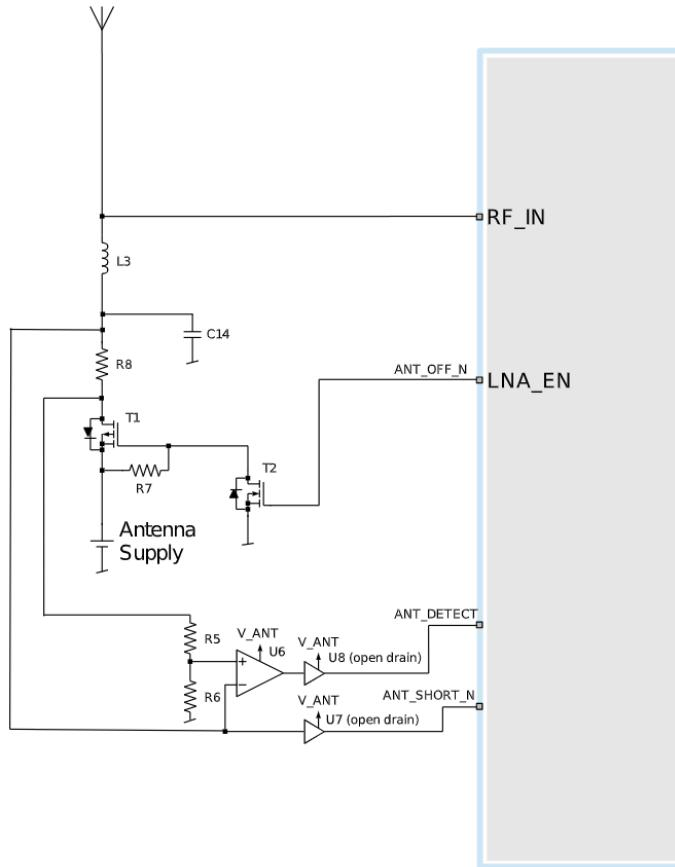

Figure 10: MIA-M10Q three-pin antenna supervisor
Figure 10 presents the required three-pin antenna supervisor circuit and subsequent sections describe how to enable and monitor each feature.
Table 16 presents a list of the external components required for implementing the three-pin antenna supervisor design in **Figure 10**. Refer to External components for the recommended parts and specification.
- The open drain buffers shown in Figure 10 are not needed if V_{ANT} is the same voltage level as V_{IO} .